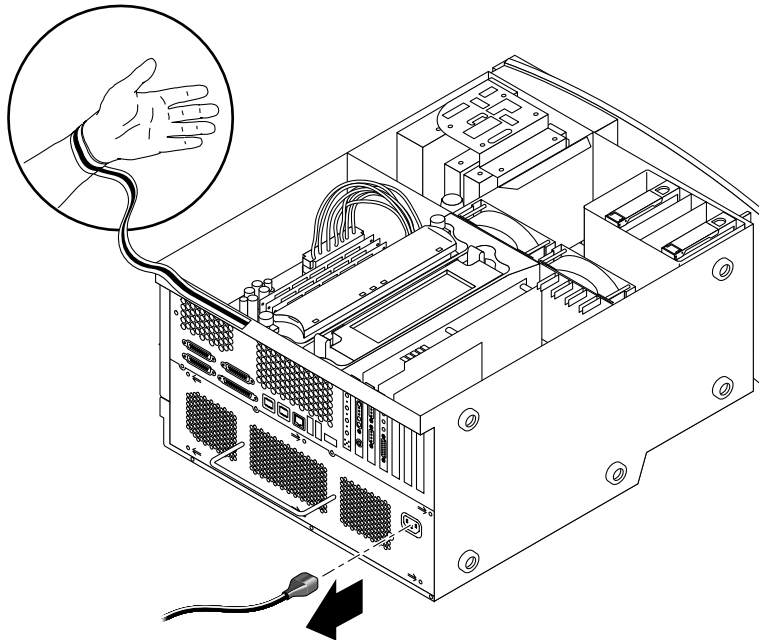

FIGURE 9 Attaching the Antistatic Wrist Strap
1. Place the workstation on its side on a work surface, open side facing up (see FIGURE 9).
4. Attach the copper end of the wrist strap to the chassis (see FIGURE 9).